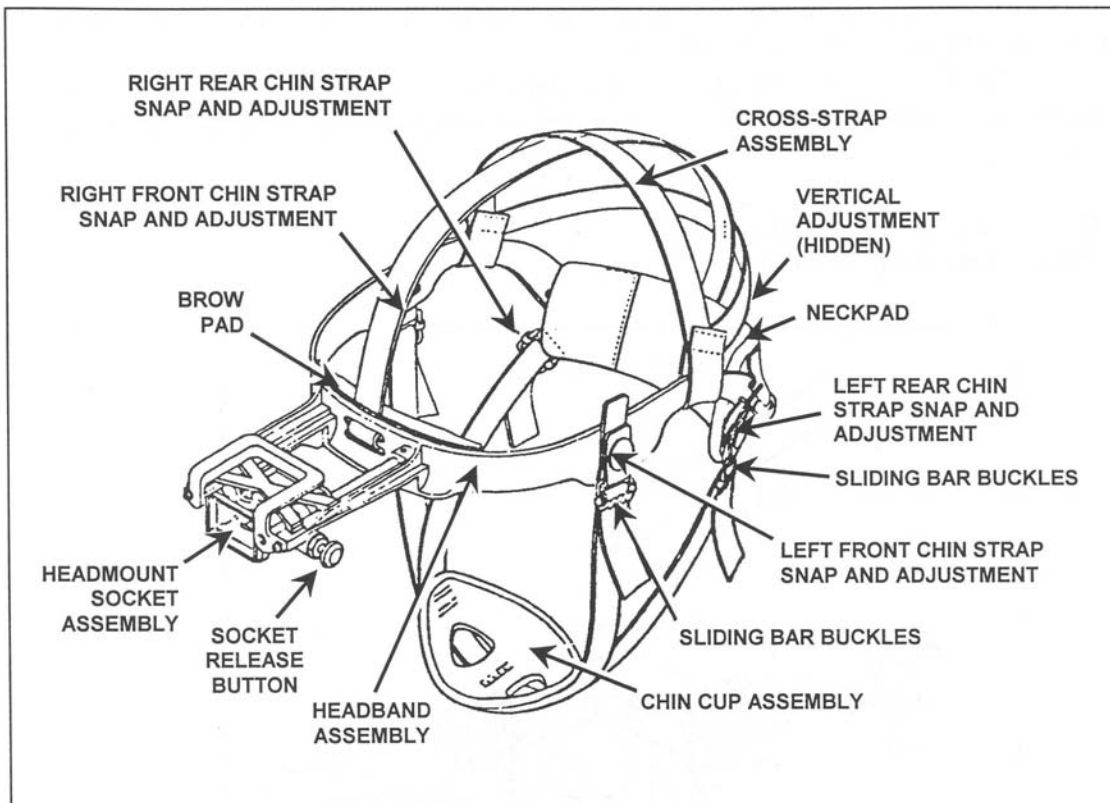

Figure 3. AN/PVS-7B headmount assembly.
- (5) Check the interpupillary adjustment on the eyepiece to see if it moves freely. If it does not, refer to your supervisor for a higher level of maintenance.
- (6) Turn the objective lens focus knob to make sure it moves freely. The knob should turn about 1/3 turn, or 120 degrees. If the knob does not move freely, refer to your supervisor for a higher level of maintenance.
- (7) Inspect for bent, broken, dried, cracked, torn, dusty, dirty or improperly fitting eye cups. If necessary, clean and dry the eye cups with clean water and a lens tissue. If the eye cups are defective, refer to your supervisor for a higher level of maintenance.
- (8) Check the OFF-ON-PULL/IR switch. Move the switch from OFF, to ON and to PULL/IR. Each position should have a definite stopping point. If the knob is broken
- (9) Inspect the AN/PVS-7B headmount assembly (Figure 3).